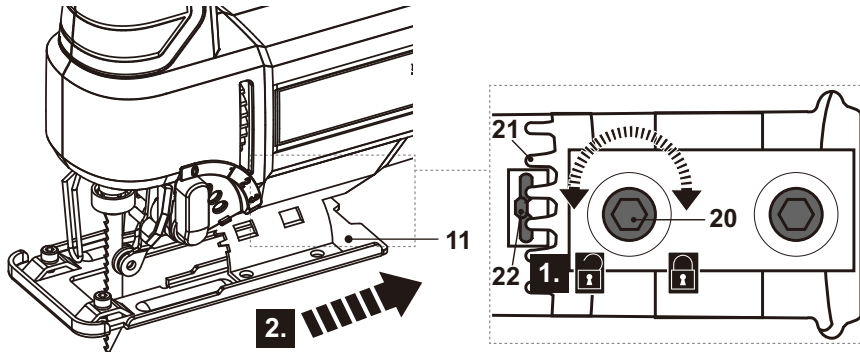

Fig. 7
- > Loosen the 2 hex bolts (20) with the hex key (6) anticlockwise (Fig. 7, step 1).
- > Slide the base plate (11) backward to disengage the teeth (21) from the pin (22) (Fig. 7, step 2).